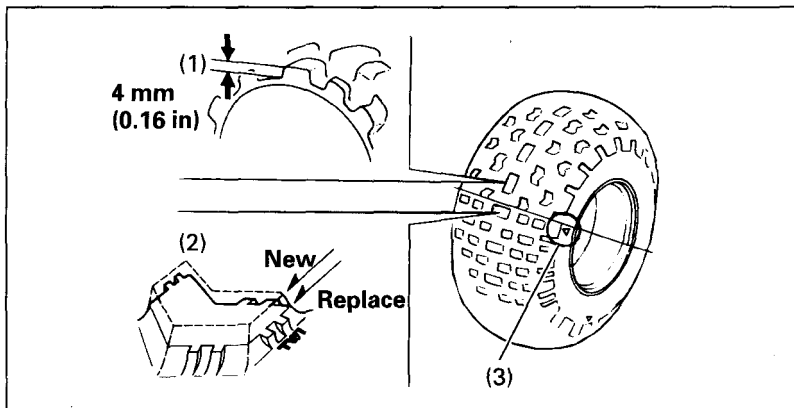

Fig. 4-34
To check the condition of a tire tread, measure the groove depth (1) (Fig. 4-34) in the center of the tire, or check the wear indicator (2). The minimum tread depth is 4 mm (0.16 in). When the tread depth is less than recommended, the tire should be replaced.